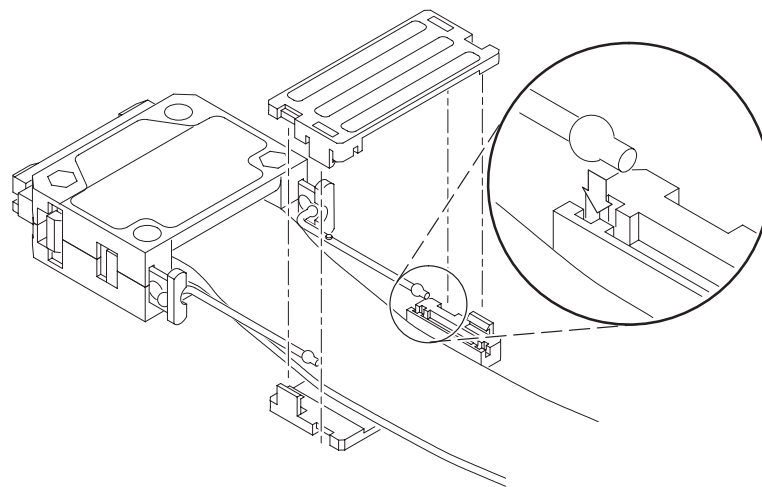

Figure 23: Reconnecting the latch release cords to the latch release grip
3. Place the other end of the latch release cords into the latch release grip and reconnect the latch release grip as shown in Figure 23.